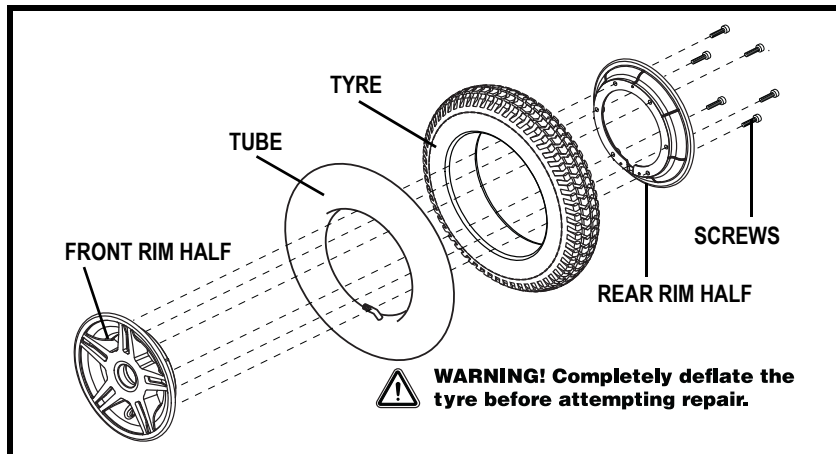

Figure 22. Jazzy 614 Series Drive Wheel Disassembled
6. Remove the screws from the rim assembly and separate the front and rear rim. See figure 22.